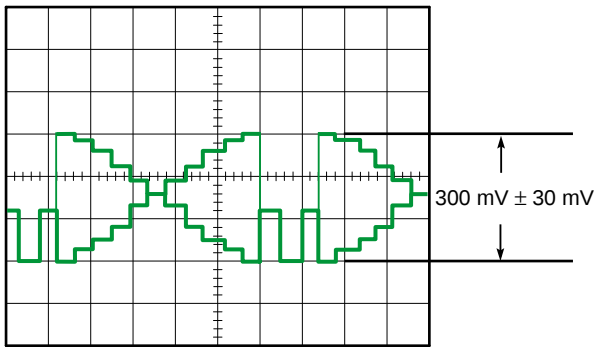

Fig. 4-2
- Adjust data with the **ARROW** keys so that the CDS OUT signal level becomes 300 mV $\pm$ 30 mV as shown in Fig. 4-2.